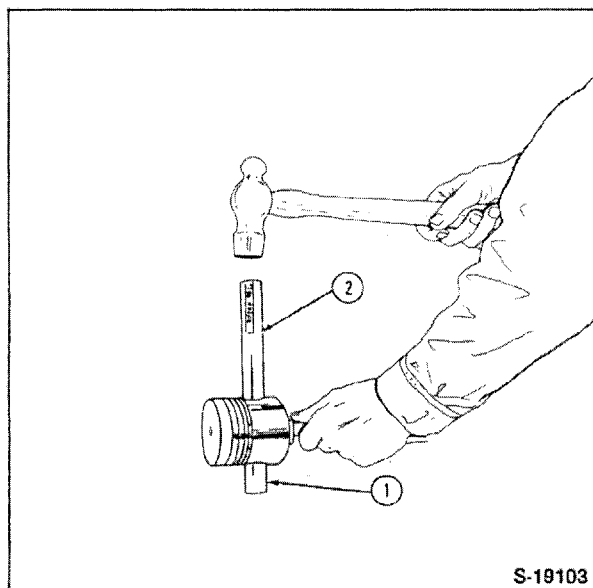

Figure 53
4. Remove the piston pin retainer rings and drive the pin out of the piston, using Tool No. 1585, Figure 53.